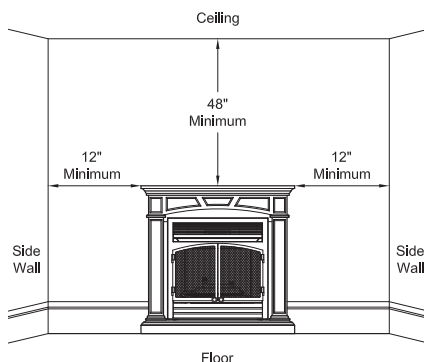

Figure 6 - Minimum Clearance for Combustible to Wall and Ceiling
- A. Clearance from the side of the fireplace to any combustible material and wall should not be less than 12" (see Figure 6).